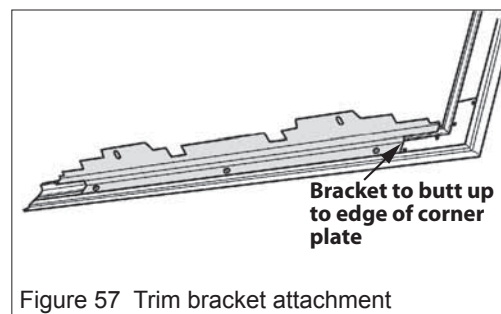

Figure 57 Trim bracket attachment
3. Attach the two trim fixing brackets to the side trims with three screws each side. The brackets must butt up to the edges of the corner connection plates. See figure 57.